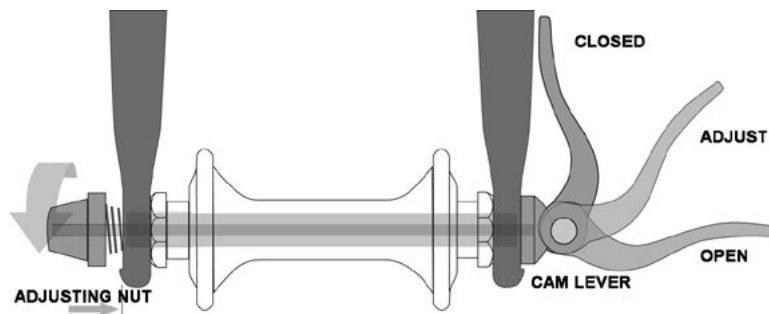
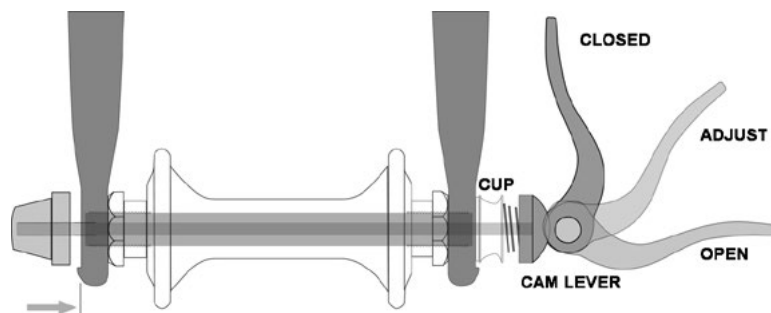

fig. 16
fig. 17
1. A hollow axle with a shaft (“skewer”) running through it which has an adjustable tension nut on one end and an over-center cam on the other (fig. 16, 17).
There are currently two types of over-center cam wheel retention mechanisms: the traditional over-center cam (fig. 16) and the cam-and-cup system (fig. 17). Both use an over-center cam action to clamp the bike's wheel in place.
Adjusting the Cam-and-Cup Mechanism (fig. 17)
(1) If your bike has cam action front wheel retention, move the cam lever from the locked or CLOSED position to the OPEN position (fig. 16, 17). If your bike has through bolt or bolt-on front wheel retention, loosen the fastener(s) a few turns counter-clockwise using an appropriate wrench, lock key or the integral lever.
(2) If your front fork has a clip-on type secondary retention device, disengage it. If your front fork has an integral secondary retention device, and a traditional cam action system (fig. 16) loosen the tension adjusting nut enough to allow removing the wheel from the dropouts. If your front wheel uses a cam-and-cup system, (fig. 17) squeeze the cup and cam lever together while removing the wheel. No rotation of any part is necessary with the cam-and-cup system.
(1) If your bike has cam action front wheel retention, move the cam lever so that it curves away from the wheel (fig. 17). This is the OPEN position. If your bike has through bolt or bolt-on front wheel retention, go to the next step.
(2) With the steering fork facing forward, insert the wheel between the fork blades so that the axle seats firmly at the top of the fork dropouts. The cam lever, if there is one, should be on the rider's left side of the bicycle (fig. 16, 17). If your bike has a clip-on type secondary retention device, engage it.
(3) If you have a traditional cam action mechanism: holding the cam lever in the ADJUST position with your right hand, tighten the tension adjusting nut with your left hand until it is finger tight against the fork dropout (fig. 16). If you have a cam-and-cup system: the nut and cup (fig. 17) will have snapped into the recessed area of the fork dropouts and no adjustment should be required.
(4) While pushing the wheel firmly to the top of the slots in the fork dropouts, and at the same time centering the wheel rim in the fork.
(a) With a cam action system, move the cam lever upwards and swing it into the CLOSED position (fig. 16, 17). The lever should now be parallel to the fork blade and curved toward the wheel. To apply enough clamping force, you should have to wrap your fingers around the fork blade for leverage, and the lever should leave a clear imprint in the palm of your hand.
Some bikes are equipped with a cam action seatpost binder. The seatpost cam action binder works exactly like the traditional wheel cam action fastener (6.A). While a cam action binder looks like a long bolt with a lever on one end and a nut on the other, the binder uses an over-center cam action to firmly clamp the seatpost (fig. 16).